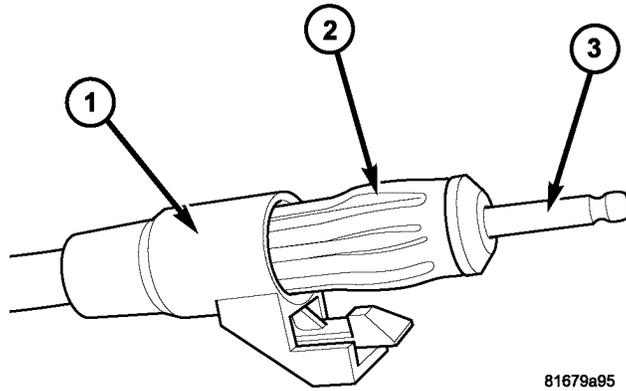

Fig. 3 ANTENNA LEAD - RESISTANCE TEST
16. Using an ohmmeter, measure the resistance at the antenna lead connector between the center conductor and the grounded metal shell of the connector (Fig. 3).